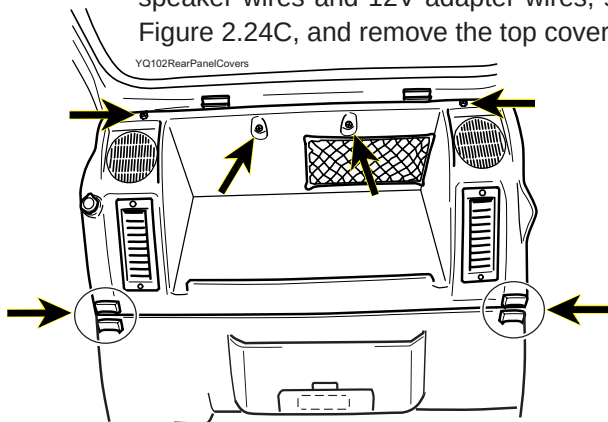

FIGURE 2.24B
2. Remove the covers for the control panel located behind the operator's seat, see Fig. 2.24B: